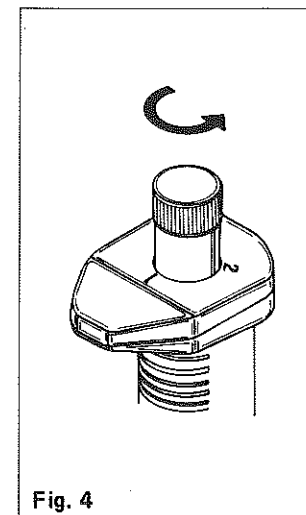

Fig. 4
3. Select the desired volume to be dispensed by turning the thumb knob until the black line on the thumb knob corresponds to the appropriate dial number molded on the cap. (Fig. 4) A reference table showing the dial number and dispense volume is affixed on the cartridge holder.